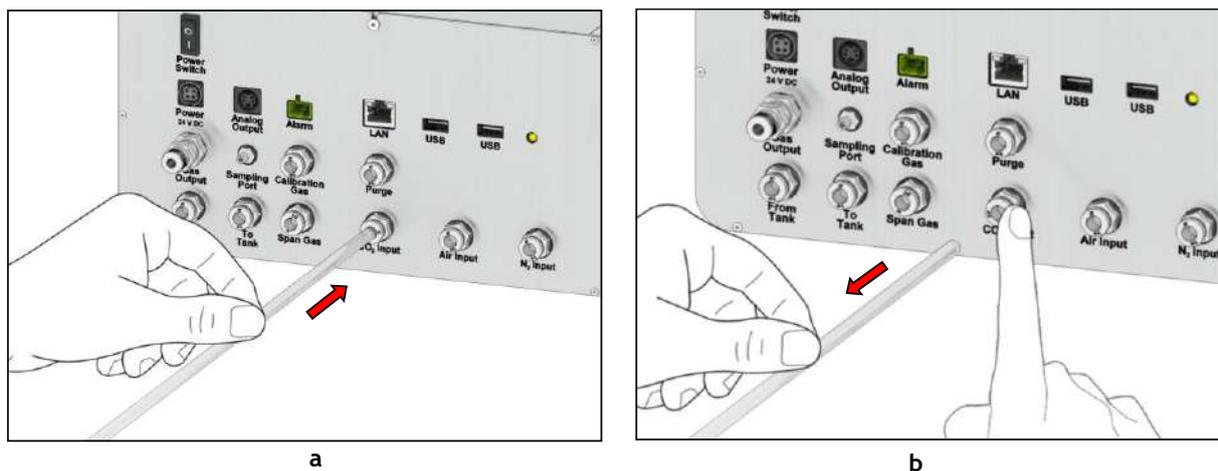

Figure 7. How to connect and disconnect the tubings from push to fit connectors (a – b).
1. Cut the TUBE A according to your needs and use it to connect Air, CO₂, N₂, Premixed and Calibration Gas supply to the corresponding push to fit connectors on the rear panel of the Tri-Gas-Mixer (see Figure 7 a).
To remove tubing from the connectors push the ring while pulling the tubing out.(see Figure 7 b).